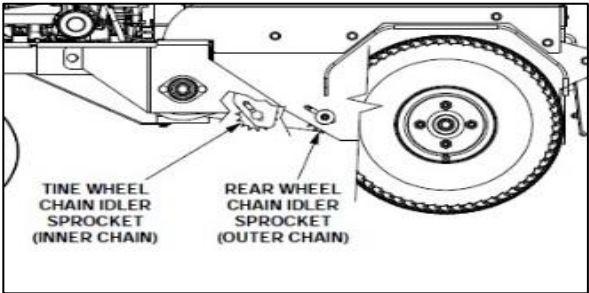

Figure 2: Chain Idler Sprockets
- o Check length of chain for tension. There should be 1/2"-3/4" deflection. Adjust Idler sprocket if needed (**Figure 2**)